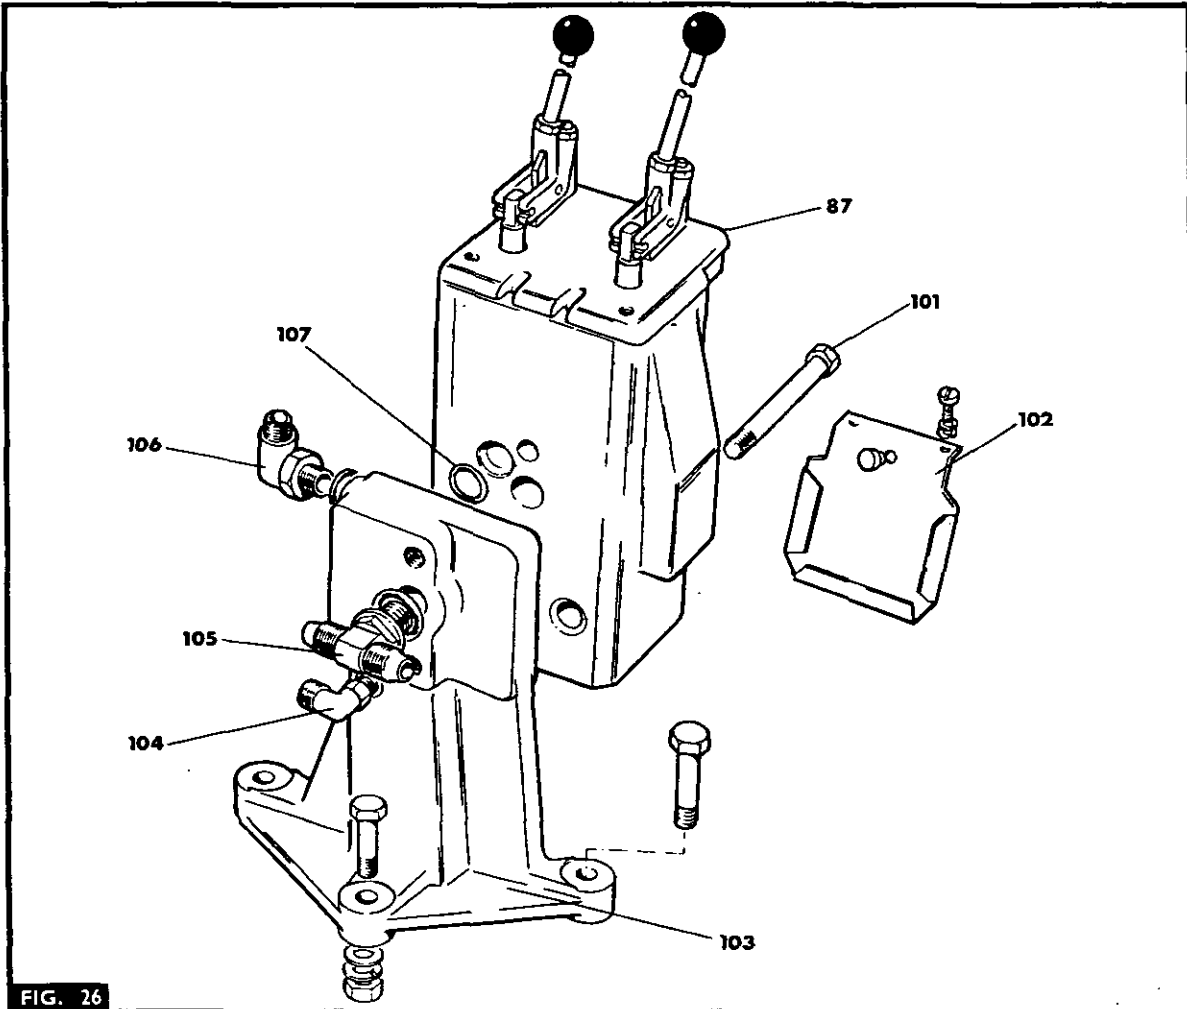
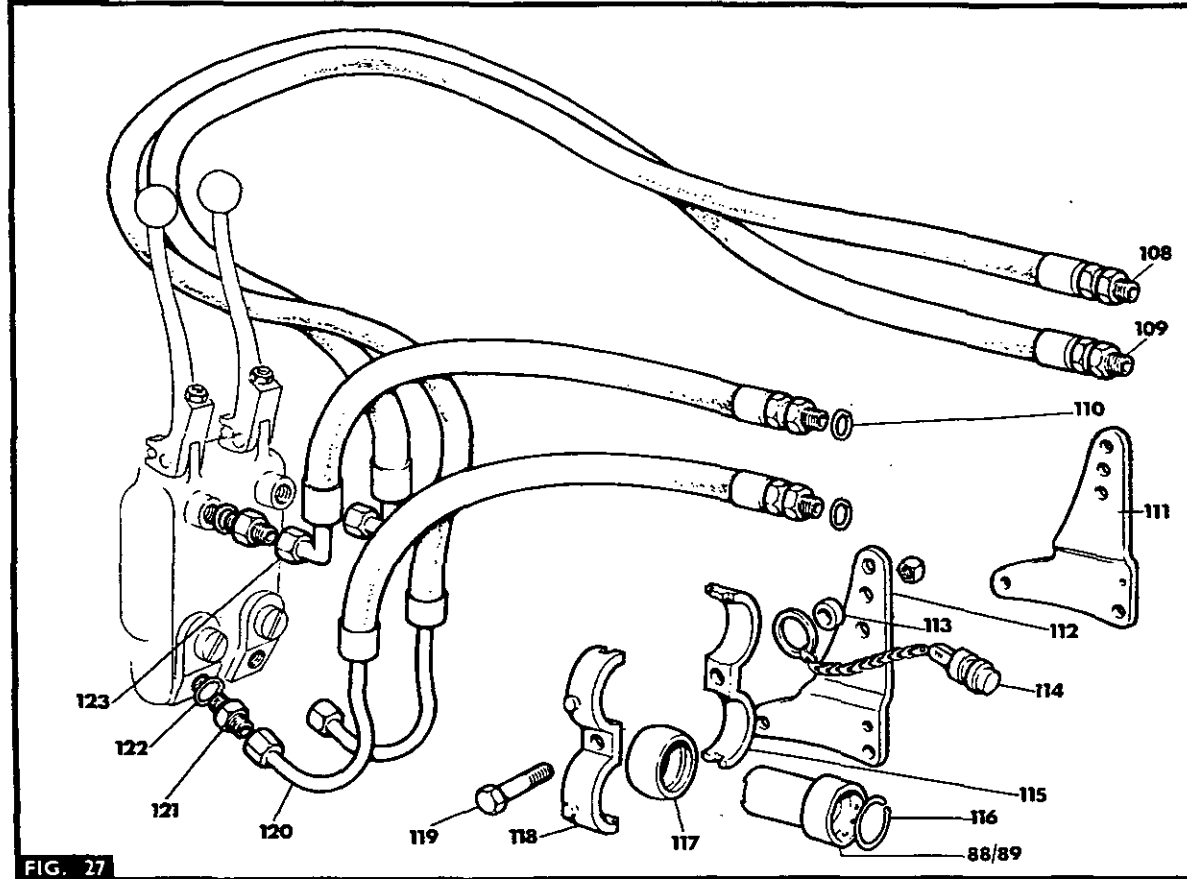
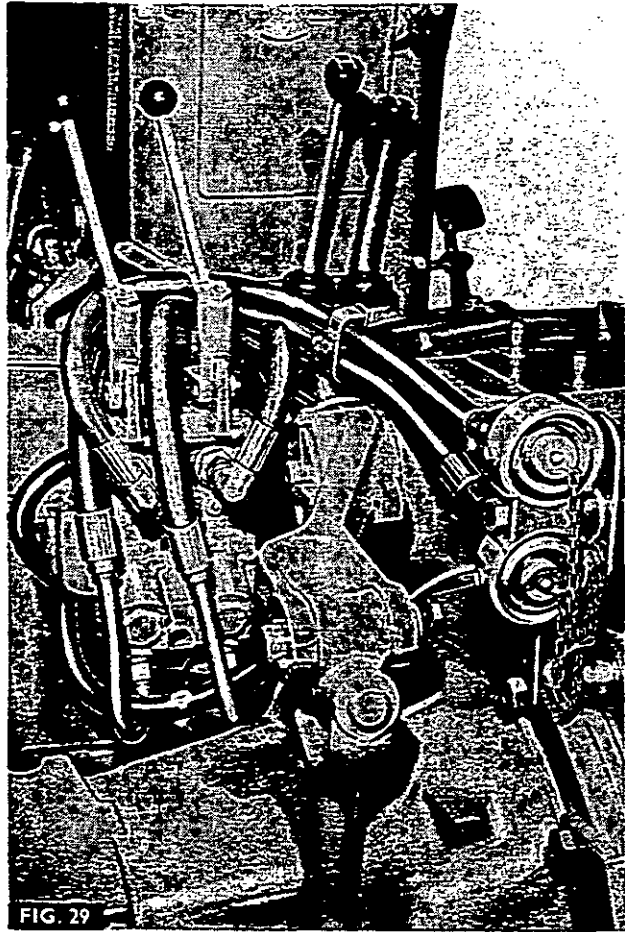
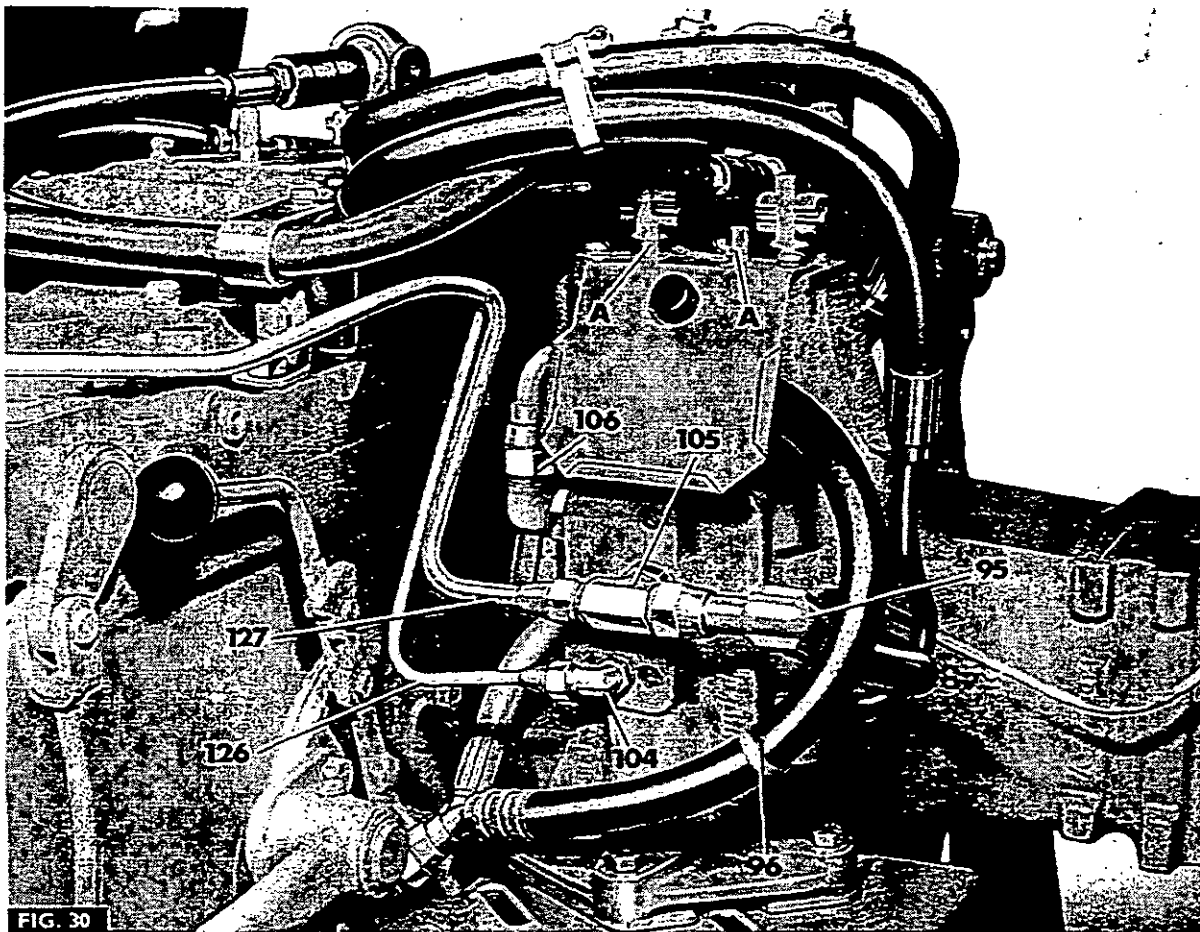

FIG. 26
FIG. 27
FIG. 29
FIG. 30
15. Fig. 26. Clean the front face of spool valve (87) and the mating face of the manifold (103), then fit an 'O' ring (107) to each of the three ports on the valve body. Place the body and manifold together and fit the two Allen screws (101) to secure them.
16. Fit an 'O' ring to the tee-piece (105), then screw the tee-piece into the upper hole on the front of the manifold.
17. Fit an 'O' ring to the smaller 90° elbow (104) then screw the elbow into the lower hole in the front of the manifold.
18. Fit an 'O' ring to the larger 90° elbow (106), then screw the elbow into the side of the manifold.
**NOTE - THE TEE-PIECE AND THE ELBOWS MUST, WHEN FULLY SCREWED IN, FACE IN THE DIRECTIONS SHOWN IN FIG. 26.**
19. Fit the plate (102), securing it with two screws, plus flat and spring washers. Press in the rubber grommet.
20. Figs. 27 and 28. Place the spool valve, front face downwards on a bench, then fit the four adapters (121) using 'O' rings (122) to the four tapped ports in the valve body.
21. Fit the four hoses as follows: Short hose with 90° connector (123) to 'DROP No. 1', Long hose with 90° connector to (108) to 'DROP No.2'; Short hose with curved connector (120) to 'LIFT No.1'; and the long hose with the curved connector (109) to 'LIFT No. 2'.
22. Slide a 'Pioneer' coupler (88/89) into each gimbal ring (117) and secure them with the snap rings (116).
23. Using an 'O' ring (110) for each, screw the 'Pioneer' couplers on to the hoses.
24. Fig. 29. Assemble the 'Pioneer' couplers in pairs, with two clamps (115 and 118), a spacer (113) and a pair of plugs and chains (114) per side. Slide the bolt (119), through the clamps and spacer, then locate the plug chain rings over the spacer, before bolting the assembly to the brackets (111 and 112), through the middle hole in the bracket.
**NOTE -THE BRACKETS (111 AND 112) ARE 'HANDED' (LEFT AND RIGHT) AND THE TWO SHORT HOSES MUST BE FITTED TO THE L.H. BRACKET (112). ALSO, THE HOSES WITH THE 90° CONNECTORS MUST BE PLACED IN THE UPPER CLAMP SOCKETS.**
28. Fig. 30. Fit the leak off pipe (126) to the union on the lift cover then connect it to the 90° elbow (104) on the front of the manifold.
29. Fit the feed pipe (127) connecting it to the union (54) on the combining valve and to the tee-piece (105) on the manifold.
30. Connect the feed pipe (95) (rear connector on side cover) to the tee-piece (105), as shown.
31. Connect the return pipe (96) to the 90° elbow (106) on the side of the manifold.
33. Fig. 29. Locate the 'Pioneer' coupler support brackets (111 and 112) on the studs on the trumpet housings, then refit the bolts and nuts.
34. Fig. 30. Fit the clamps to the components already fitted (98, 99 and 100) to secure the hoses to the lift cover.
35. Fig. 29. Fit the sealing plugs (114) to each of the 'Pioneer' couplers.
Fig. 30. To change from single acting, to double acting operation, screw the switch valve (A) fully in. To change to single-acting operation, screw the switch valve out five full turns.
This operation is almost identical to operation 7B-10-18 except that the feed pipe (95 Fig. 30) is not used, its connections being blocked off by a banjo bolt at the p.t.o. side cover and by a cap on the tee-piece (105).